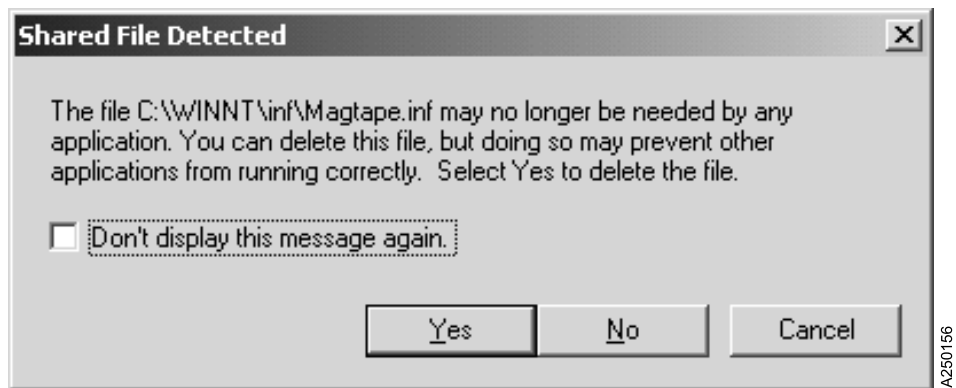

Figure 45. Shared File Detected Menu
10. Follow the InstallShield Wizard instructions to uninstall your IBM Ultrium device drivers. During the uninstall process, the InstallShield Wizard may ask you a question. See Figure 45.